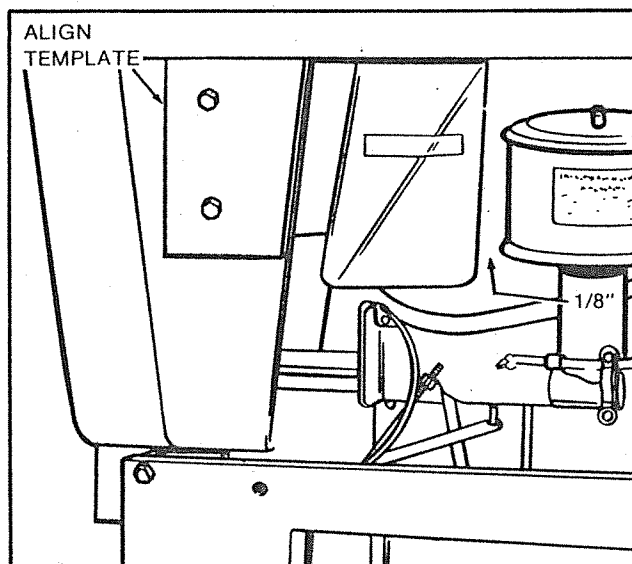

**Figure 22. Deflector Installed, Early Model Tractor**
1. If the tractor has side mounted headlights, use hardware that secures the left headlight to the hood. The hardware sent with kit is not needed. The deflector will be positioned as shown in figure 22 (headlight not shown).
2. If the tractor does not have side mounted headlight, but has mounting holes, install the deflector as shown in figure 22. Use the two capscrews, lockwashers and nuts from kit. Install capscrews from outside. The two spacers sent with kit are not needed.
- a. Open the hood. Place the deflector in position as shown in figure 22. Make sure clip on top edge of deflector fully engages the hood. Slide deflector as far as possible toward front of tractor. Mark position of mounting holes and remove the deflector.